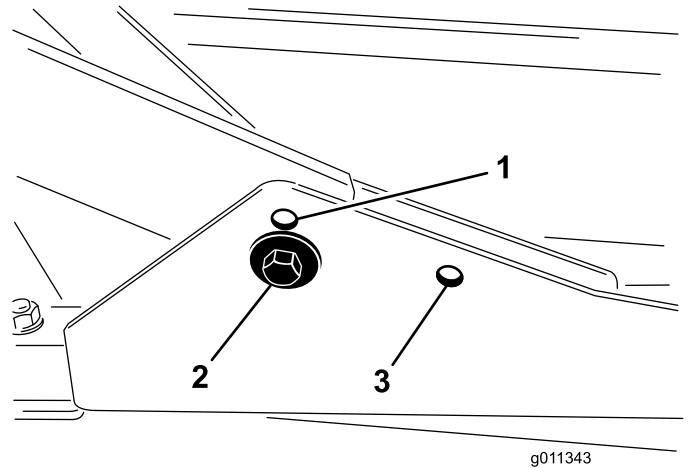

Figure 15
1. For heights of cut in the 2 to 7.6 cm (3/4 to 3 inch) range, mount the front carrier frames in the lower front mounting holes (Figure 15).
2. For heights of cut in the 6.3 to 10 cm (2-1/2 to 4 inch) range, mount the front carrier frames in the upper front mounting holes (Figure 15).
For all heights of cut, mount the rear cutting deck in the rear mounting holes (Figure 15).